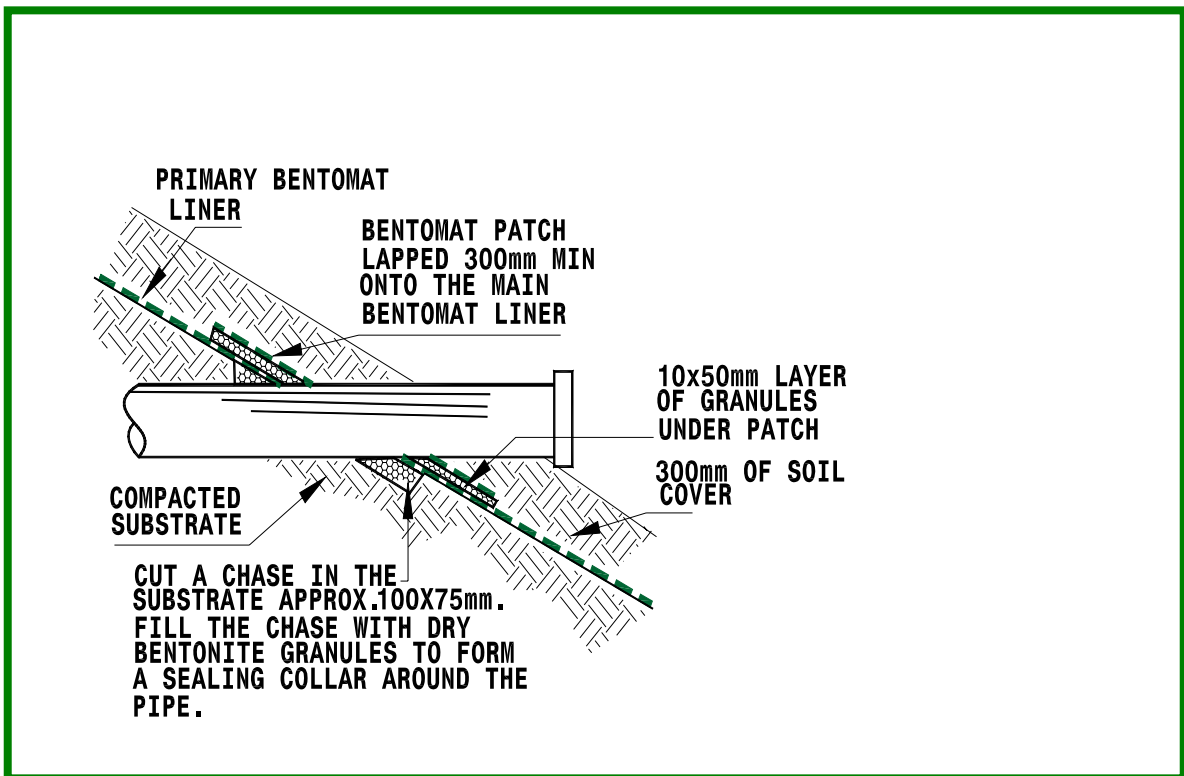

Figure 4a. Cross-section of a horizontal pipe penetration.
- 8.3 When the GCL is placed over an earthen subgrade, a “notch” should be excavated into the subgrade around the penetration (Figure 4a). The notch should then be backfilled with granular bentonite or bentonite mastic.